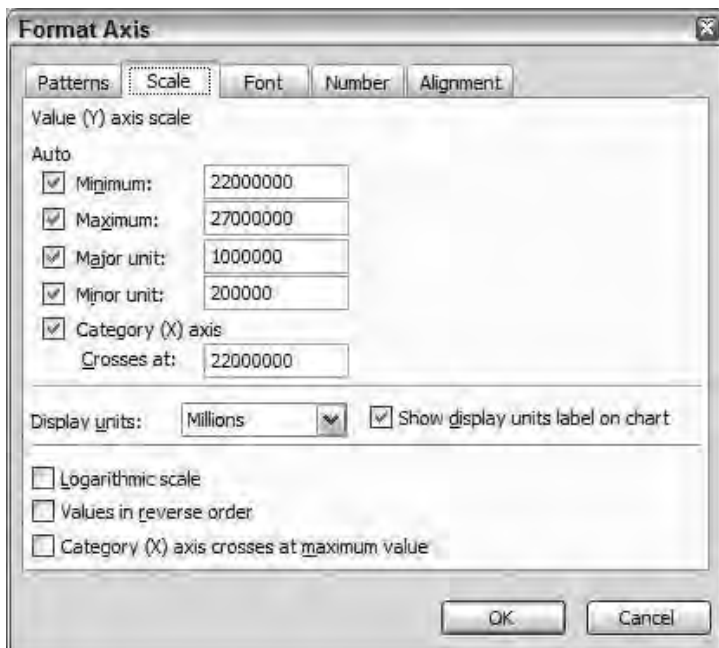

Figure 16.3: Use the Format Axis dialog box to scale Y-axis values and display a units label showing the scaling factor.
1. Double-click the Y-axis to display the Format Axis dialog box shown in Figure 16.3. Select the Scale tab.